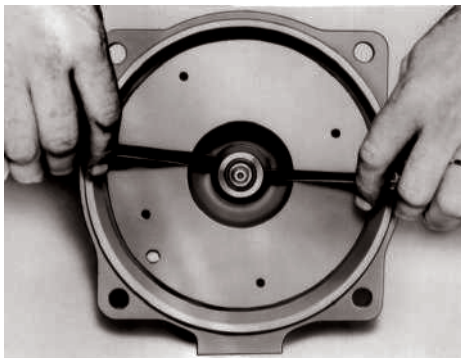

Figure 2
1. Remove foot bolt (10).
2. Remove casing bolts (12).
3. Remove back pull-out assembly from casing (2).
4. Remove diffuser seal ring (3) and diaphragm (4).
5. Remove diffuser screws (5) from adapter (11).
8. Remove impeller (7), turning **COUNTER-CLOCKWISE**.
9. Using two screwdrivers, pry off rotary section of mechanical seal (8). Discard. See Figure 2.
10. Remove motor adapter bolts (12) and remove motor adapter from motor.